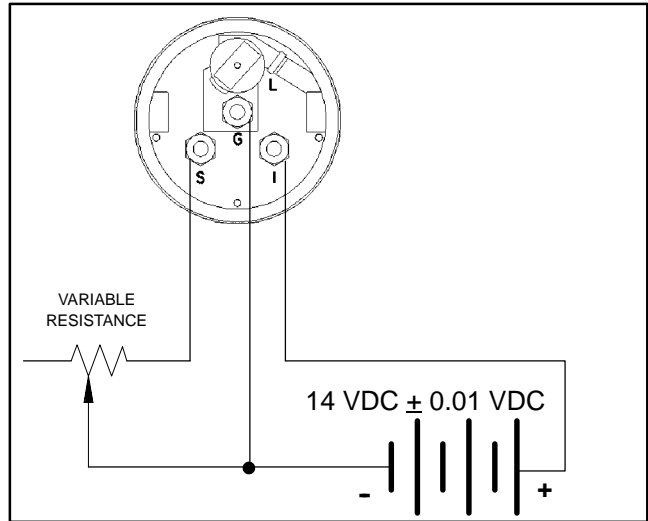

Figure 46
1. Connect temperature gauge to the variable resistance and DC voltage source (Fig. 46).